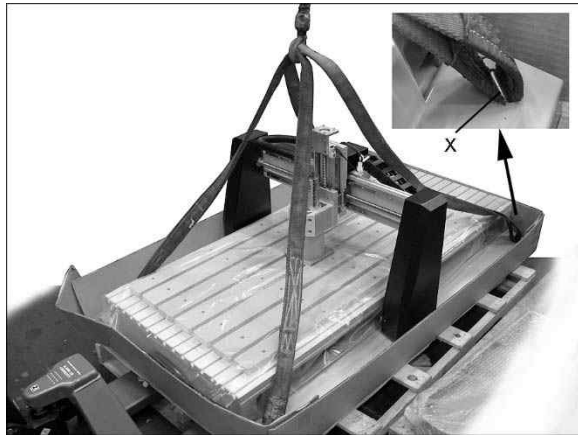

Figure 7-18
1. Place straps around steel bolts, and put bolts inside the four holes (X, Figure 7-18). **Make sure bolts are long enough to span hole and catch beneath base**, and that straps will tighten clear of gantry and any fragile parts.